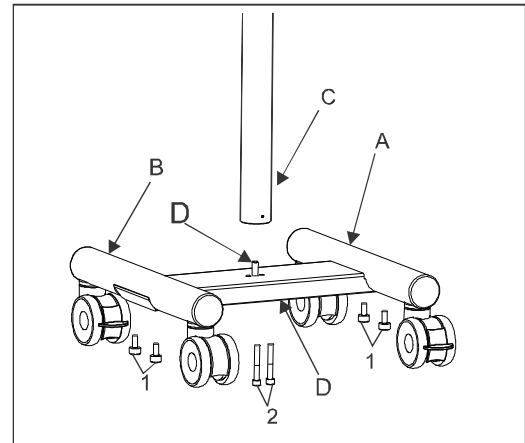

Fig. 2
- 7.1 Install the base by fixing the both sides (A) & (B) on the meta plate (D) as shown in Fig. 2 by tighten the allen screws (1) provided from the bottom of the metal plate.
- 7.2 The base is installed by fixing the column (C) on the base. Engage the column to the indexing screw (D), see Fig. 2. Align the tapped hole of the column in the screw seat, hold the upright firmly and tight the allen screws (2) from the bottom of the base.